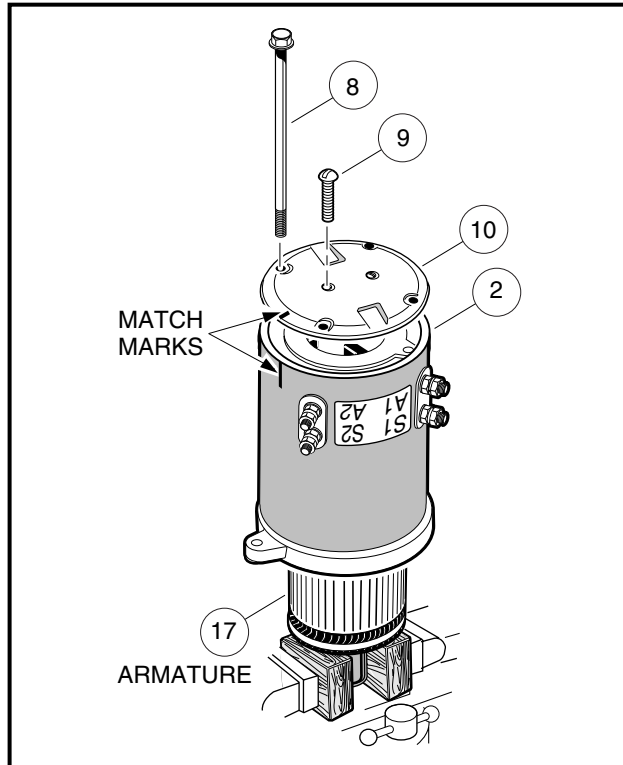

Figure 15-5 Motor Disassembly
- Before beginning disassembly, place match marks on the motor end shield and stator shell, then place the motor in a vice with wooden blocks as shown (**Figure 15-5, Page 15-5**).
- Remove the four bolts (8) securing the end shield (10) to the stator shell (2).
- Remove the two screws (9) attaching the end shield to the bearing retainer.
- Slide the armature (17) out of the opposite end of the stator shell (2).